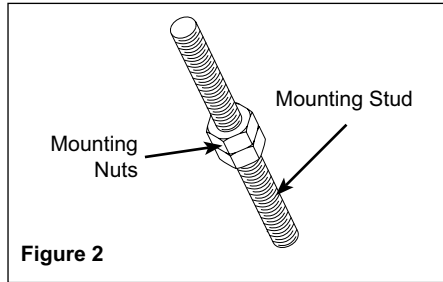

Figure 2
3. Insert three mounting studs into the threaded holes on underside of winch. A small amount of thread locker can be used to secure studs in housing. Use two mounting nuts to help tighten studs into housing as shown in Figure 2.